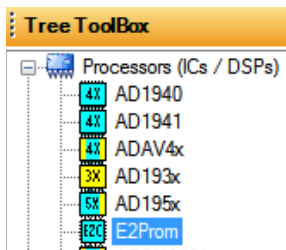

Figure 68. Adding an E2Prom Component
1. Add an IC2 (E2Prom) block to the project space of the **Hardware Configuration** tab from the **Tree Toolbox**. From the **Processors (ICs / DSPs)** folder, click **E2Prom** (see Figure 68) and drag it to the project space.